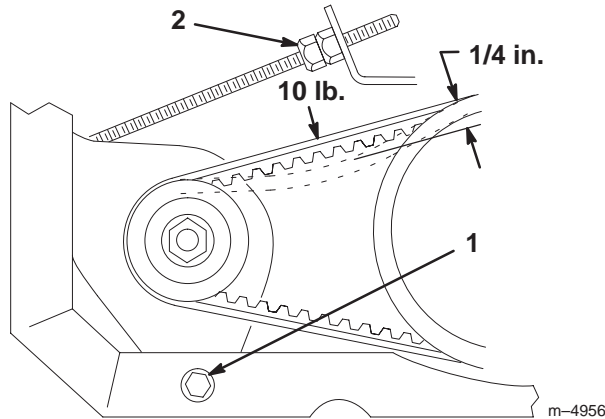

Figure 38
2. Loosen the starter generator pivot bolt (Fig. 38).
3. Adjust the jam nut on the starter rod (Fig. 38) until the belt flexes 1/4 in. with 10 lb. of force.
4. Tighten the starter generator pivot bolt (Fig. 38).